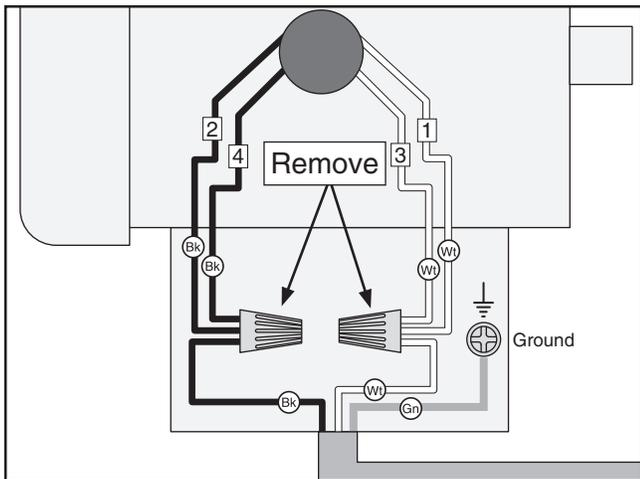

Figure 4. Location of wire nuts to be removed.
3. Open the motor junction box, then remove the wire nuts indicated in **Figure 4**.